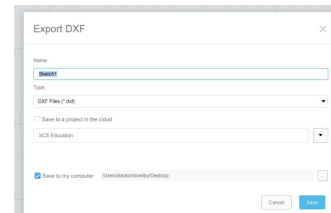

Figure 1.3
4. Name your file and click save (see Figure 1.3).